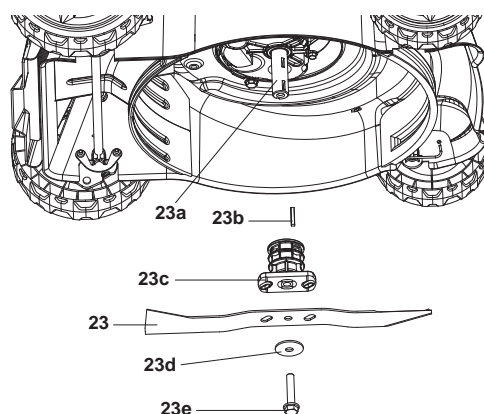

Fig. 20
1. Keep the underbody and cutting device (23) clean and free of debris. Remove clippings from the discharge chute (24).
3. Keep the cutting device (23) sharp to ensure a good cutting performance. Replace a worn or damaged cutting device with a new one of the same type or have it sharpened.
4. Loosen the hex bolt (23e) anti-clockwise using a suitable wrench and remove it together with the locking flange (23d), cutting device (23), support (23c), and pin (23b) (Fig. 20).